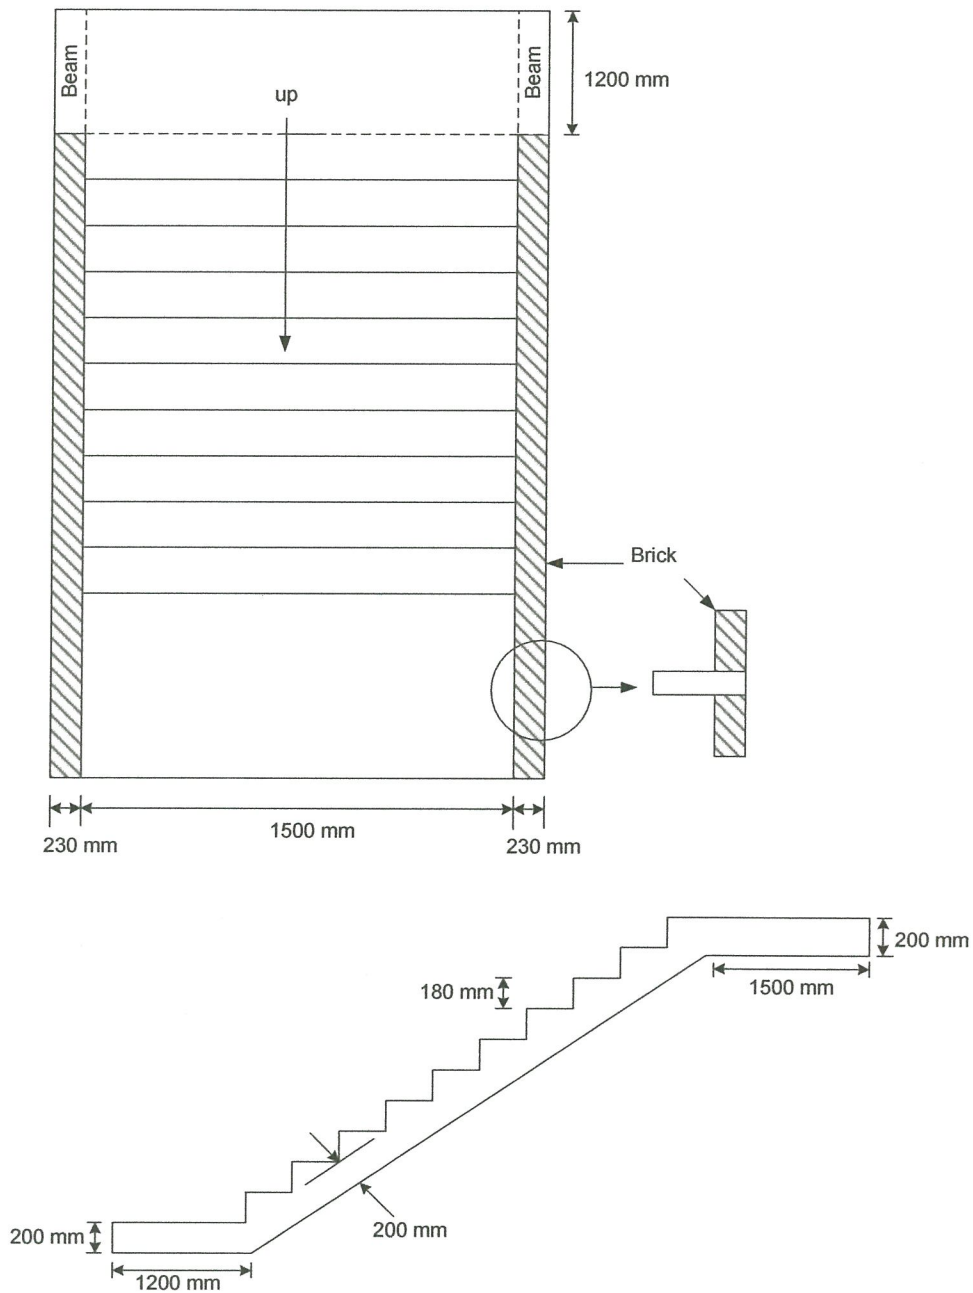

FIGURE Q1
- (c) **Figure Q1** shows a plan view and a cross-section of proposed staircases. The stairs are supported on the landing slab at both ends. The dimension of the riser and going are based on the comfort consideration. The finish loads and live loads imposed on the staircases, landings and slab are 1.0 kN/m^2 and 3.0 kN/m^2 respectively. Use concrete grade = 30 and steel grade = 500, $f_{ctm} = 2.6 \text{ N/mm}^2$, unit weight of concrete = 25 kN/m^3 , cover 25 mm, $\phi_{\text{bar}} = 12 \text{ mm}$ for main reinforcement and $\phi_{\text{bar}} = 10 \text{ mm}$ for secondary reinforcement.